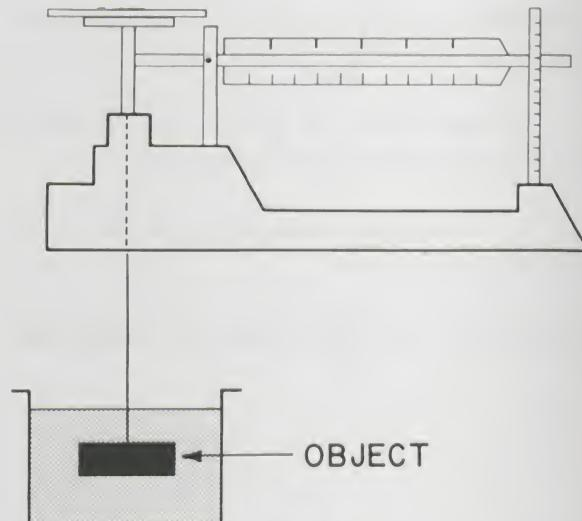

Figure 19.
- Now suspend the object from the balance arm so that it is submerged in a beaker of water, as in Figure 19. Be careful that it doesn't touch the sides. Record the apparent mass in water,  $M_W$ .